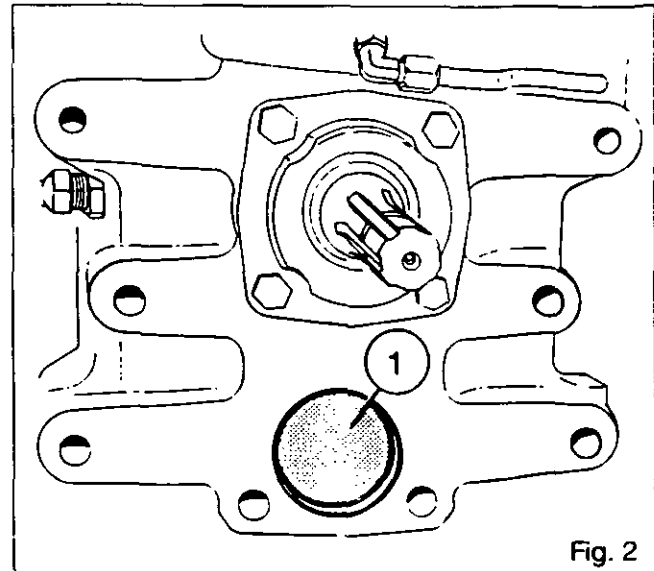
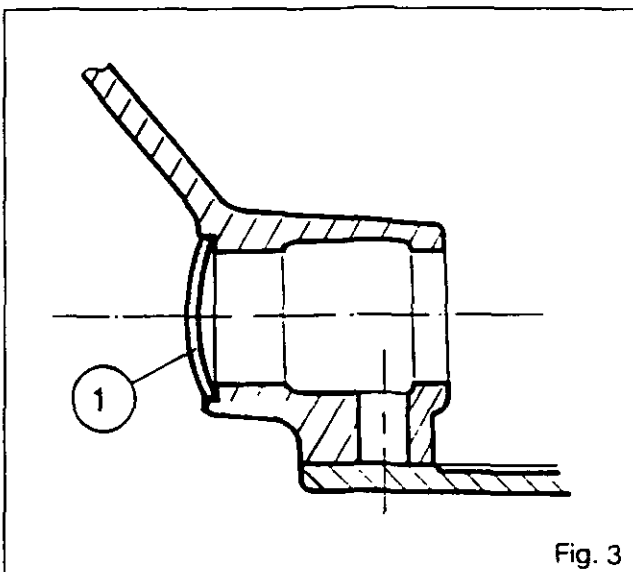

Fig. 2
Fig. 3
5. Extract the rear plug (1)(Fig.2).
8. Remove bolts (11) and cover (12).
10. Take out double pins (25) and (26) from coupling sleeves (27) and (28).
11. Slide the sleeves towards each other along shaft (29).
14. Remove circlip (30).
15. Remove plugs (1) and (24)(Figs.3 and 4).